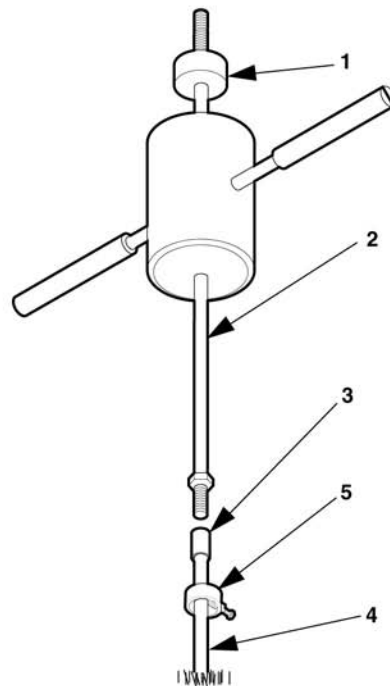

Figure 2-13. Remove Ground Rod.
- (1) Refer to Figure 2-13 and position slide hammer above ground rod coupling (3). Invert slide hammer so that end having impact disk (1) is up. Connect slide hammer rod (2) to ground rod coupling (3). Tighten so that end of rod (2) makes firm contact with end of ground rod section (4) inside coupling (3).